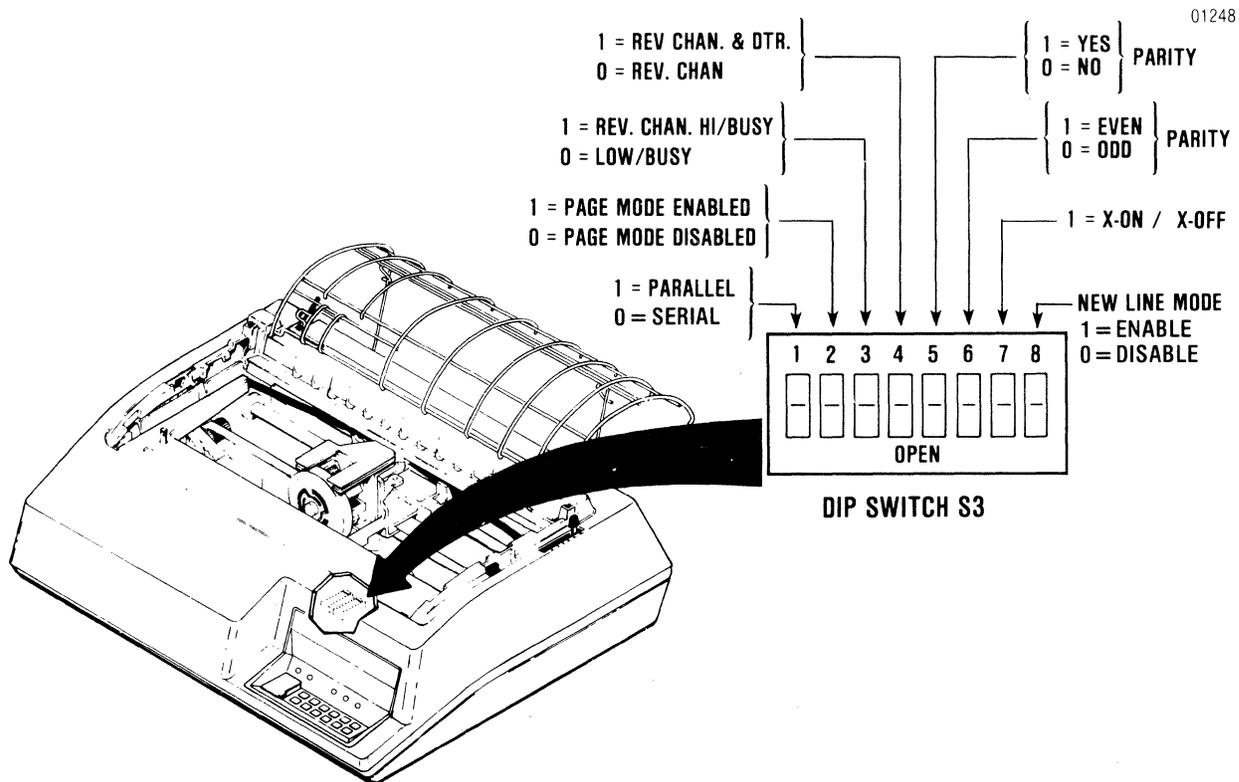

Figure C-6 Printer Features Dip Switch S3
Dip switches S3 and S4 are located inside the printer on the printed circuit board and are set by first removing the body cover. Figure C-6 shows the location of the switches.
C.5.1 PRINTER FEATURES DIP SWITCH S3—Dip switch S3 is used to select: serial or parallel operation, page mode, reverse channel high or low for busy, reverse channel with or without DTR, parity or no parity, odd or even parity, X-ON/X-OFF, and new line mode. Figure C-6 includes a table that identifies the switch positions for the printer features that can be obtained with dip switch S3.